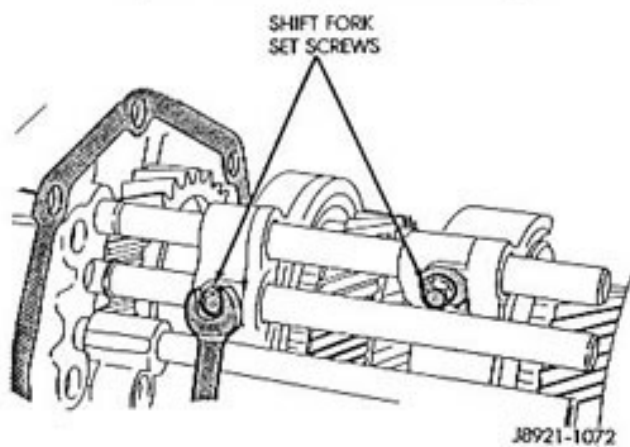

Fig. 43 Removing Shift Fork Set Screws
- (3) Remove the shift fork set screws (Fig. 43).